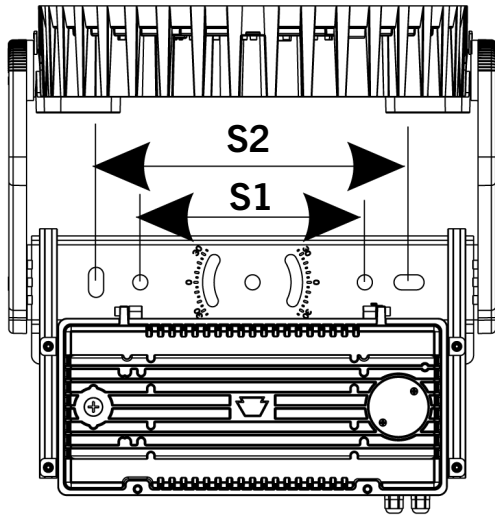
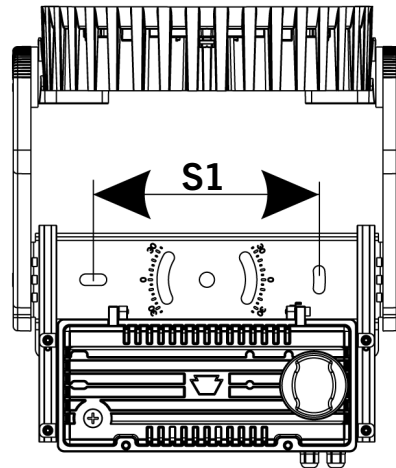

Figure 3
Figure 4
- Shown below are the drill holes and measurements required for each sports light. Figure 3 shows patterns for KT-SLFLED750-S1-XX-YM-750-VDIM and KT-SLFLED750HV-S1-XX-YM-750-VDIM. Figure 4 shows KT-SLFLED500-S1-XX-YM-750-VDIM and KT-SLFLED500HV-S1-XX-YM-750-VDIM.